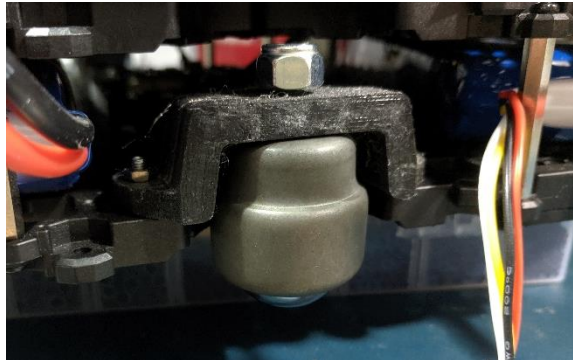

Figure 2 Rear caster installed
3. I successfully designed, 3D printed, and installed the rear caster to CuBi, Fig 2. It reduced the rolling resistance to the mobile base noticeably. I noticed that it did reduce the linear drift but seemed to have increased the angular drift. I believe that is due to the very low friction of the lab floor. I want to do more testing on carpet which is mainly where CuBi is designed to operate. I am confident that this is an improvement though.